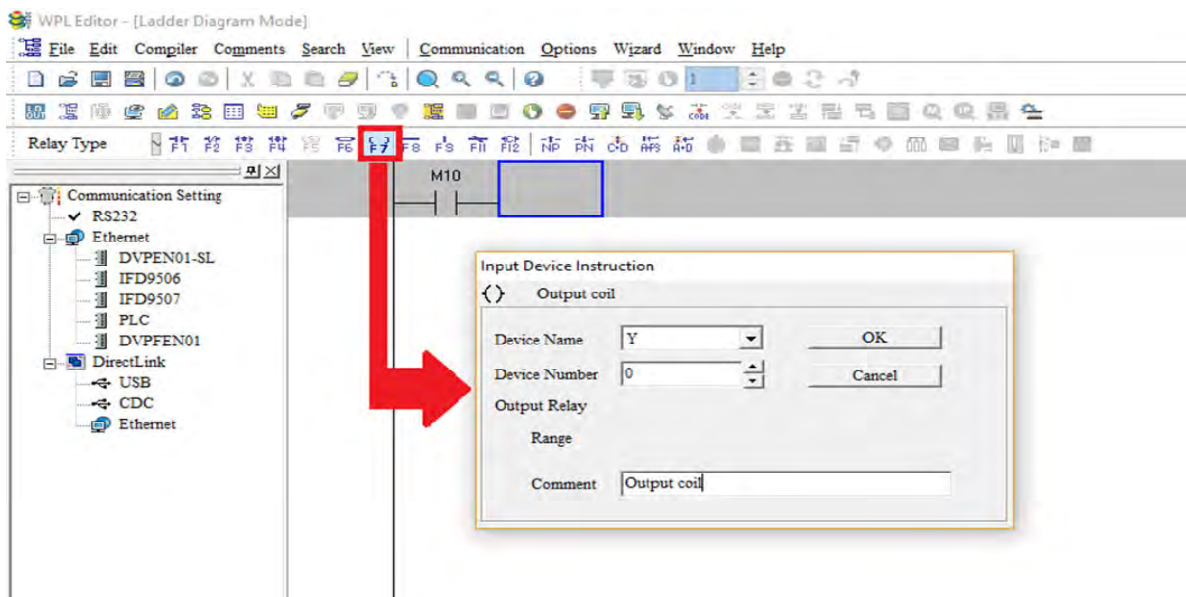

Figure 16-14
Step 3: Click on the output coil icon  or press function key F7. After the name of the input device and the comment dialog box have appeared, the device name (such as "Y"), device number (such as "0"), and input comments (such as "output coil") can be selected; press the OK button when finished (see figure 16-14 and 16-15 below).